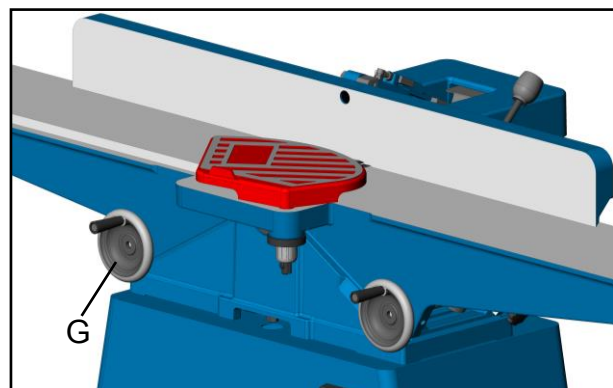

Fig. 6
6. Use handwheel (G) to adjust the out-feed table height so that the knife barely touches the straight-edge, Fig. 6.
7. Re-tighten lock knob (F) and locking levers (E) to secure the outfeed table in position and lock the hand wheel